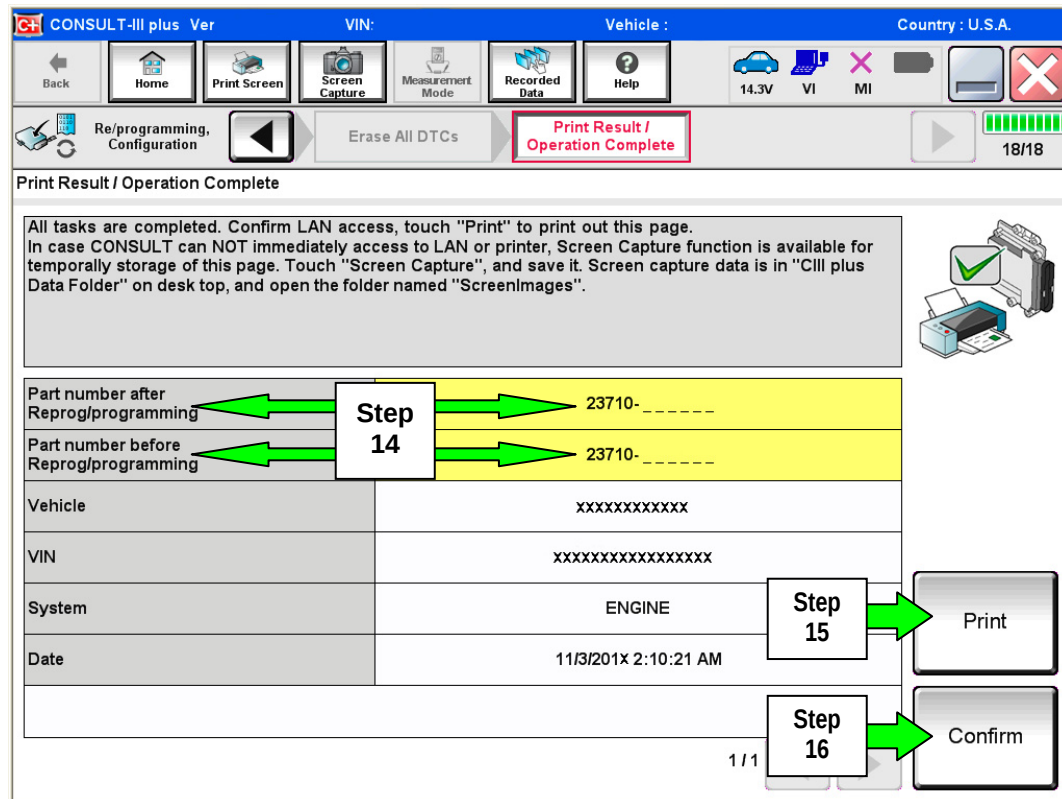

Figure 8
13. When the entire reprogramming process is complete, the screen in Figure 8 will display.
15. Print a copy of this screen (Figure 8) and attach it to the repair order for warranty documentation.